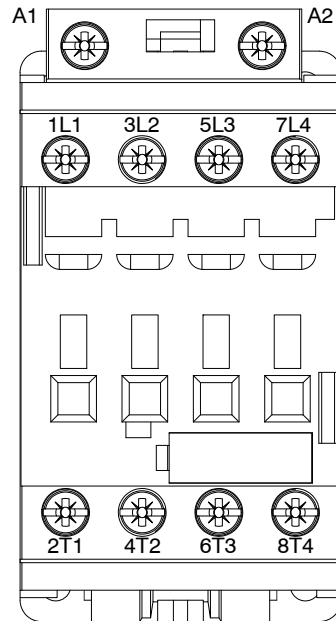

Figure 9 Terminals Connected to New Contactor
6. See Figure 9 and Table 1. Secure all terminal connections, including new red A1 wire to the new contactor. Torque screws to 10 in-lb (1.1 N•m).